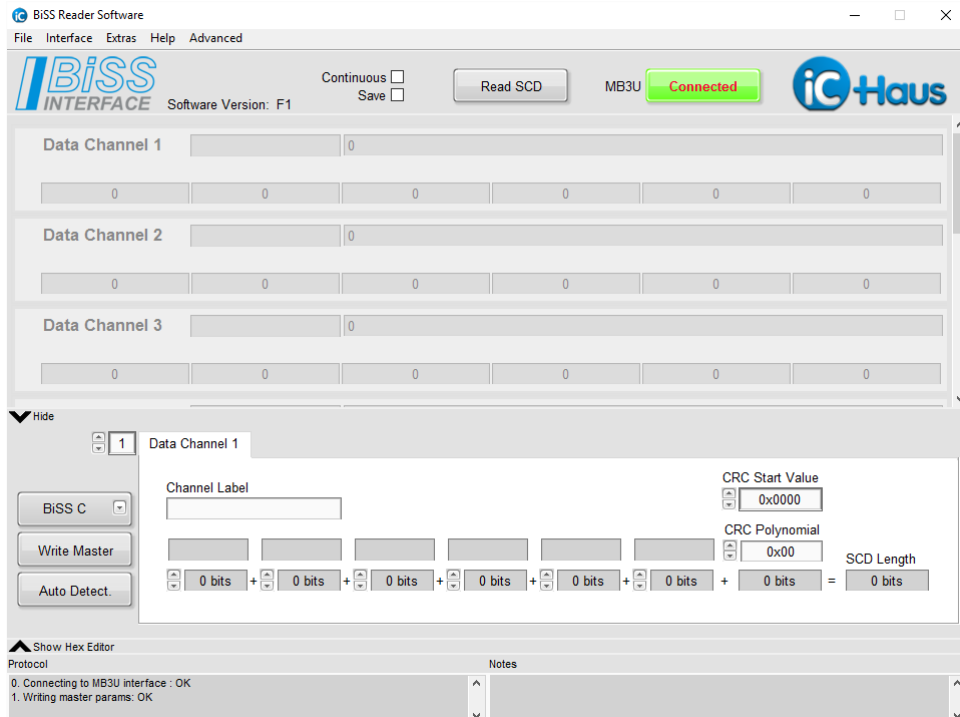

Figure 4: Start screen with connected adapter
3. Installation will make the BiSS software available in the selected working directory. The execution of this file will start the software. Figure 4 shows a screenshot of the start up window.